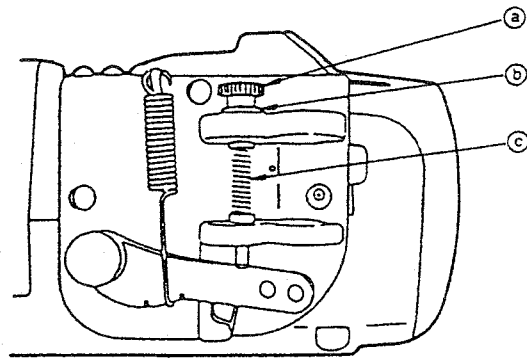

Fig. 56 Pedal sensor A asm.
② Attaching the parts
- a. Loosen rear part depressing pressure adjusting nut (b) of the pedal sensor A asm. (Fig. 56), and remove rear part depressing pressure adjusting screw (a). Then remove rear part depressing spring A (c) and replace it with rear part depressing spring B. Then attach screw (a) and nut (b) in position.